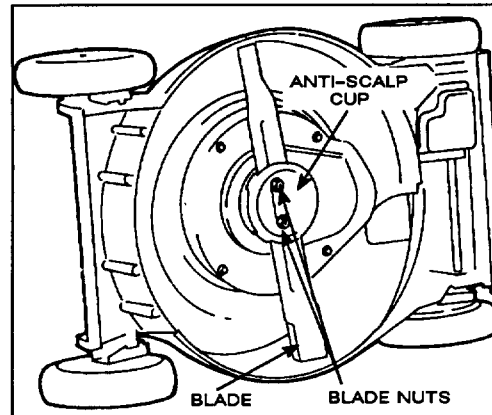

Figure 16
3. Tip mower on its right side (Fig. 16).
5. REMOVING BLADE—Grasp end of blade using a rag or thickly padded glove. Remove blade nuts, anti-scalp cup, blade, blade spacer, and rotating screen (Figs. 16 & 18).